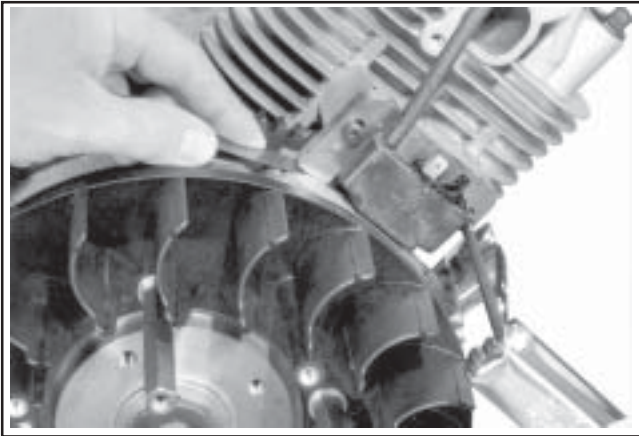

Figure 11-50. Setting Ignition Module Air Gap.
5. Insert a **0.30 mm (0.012 in.)** flat feeler gauge between the magnet and the ignition module. See Figure 11-50. Loosen the screws enough to allow the magnet to pull the module down against the feeler gauge.